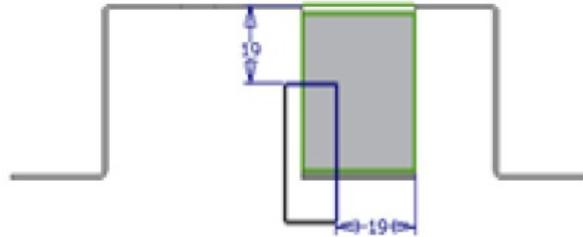

Figure 15-100 Sketch of the cut feature
1. Define a new sketch plane on the front face of the third contour flange and create the sketch of the cut feature, as shown in Figure 15-100. After creating the sketch, exit the sketching environment.